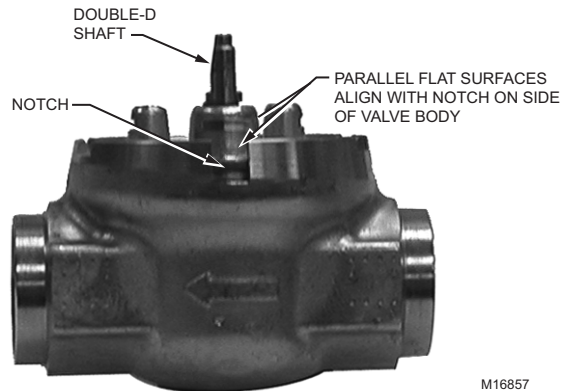

Fig. 5. Shaft Position.
4. Line up motor coupling to the parallel flat surfaces in double-D shaft of body and fit the actuator onto the valve body, ensuring that the shaft seats correctly. (See Fig. 5).